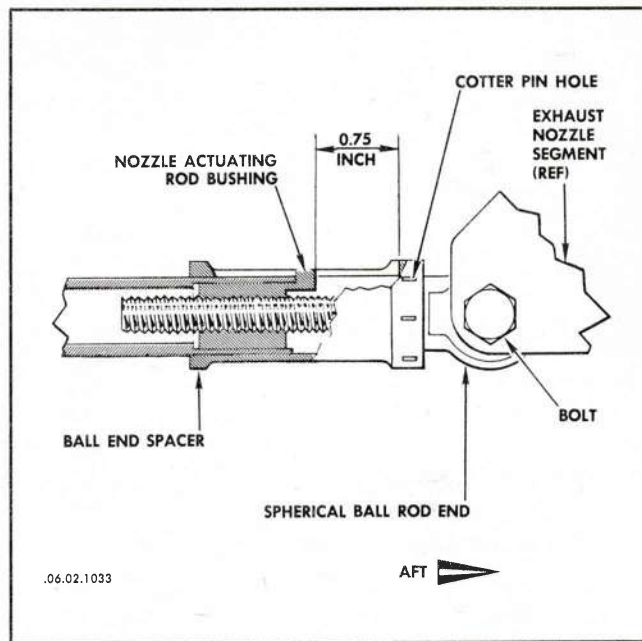

Figure 3-2. Afterburner Nozzle Adjustment
- c. Rotate the spherical ball rod to set the tang on the bushing to the dimension shown in figure 3-2.
*Applicable to F-106A airplanes 56-453, -454, 56-456 thru 57-245, 58-759 and subsequent; and 57-246, 57-2453 thru 57-2506 after incorporation of TCTO 1F-106-557. Applicable to F-106B airplanes 57-2508 thru 57-2515, 57-2532 and subsequent; and 57-2516 thru 57-2531 after incorporation of TCTO 1F-106-557.* The engine idle thrust control system is provided to reduce engine thrust during airplane taxiing operations. The system is electrically controlled and pneumatically actuated. Actuation of the switch on the cockpit left console panel to the "ON" position opens the exhaust nozzle and results in approximately 40% reduction in engine idle thrust. This reduced thrust permits reduced taxi speed and landing gear brake wear. The idle thrust control circuit is routed through the left main landing gear safety switch to provide thrust reduction on the ground only. The pneumatic portion of the system consists of a selector valve and a converter valve installed on the engine. These valves route  $N_2$  compressor bleed air, as an actuating signal, to the exhaust nozzle control valve, which ports air pressure to the exhaust nozzle actuating cylinders. See figure 3-2 for a schematic illustration of this system.